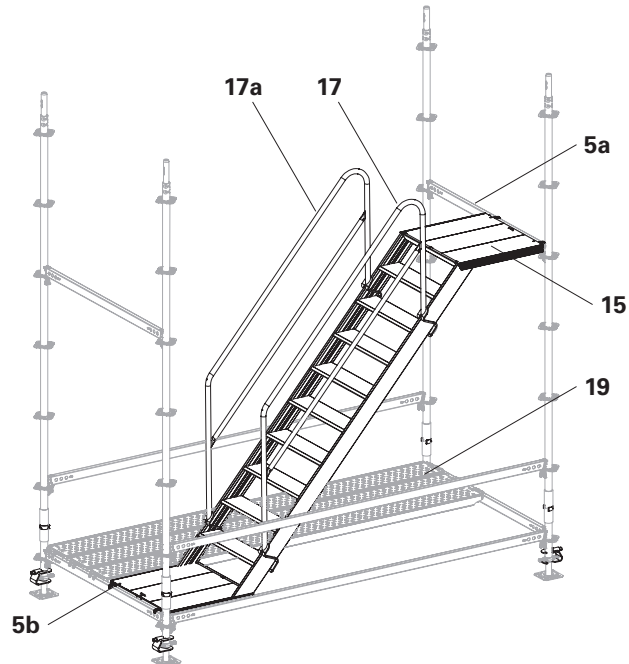
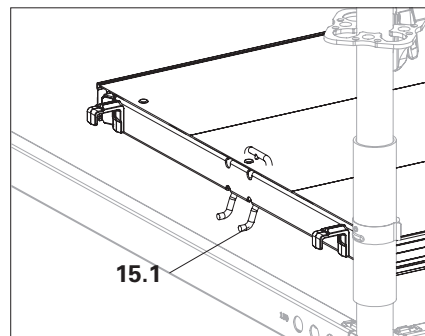
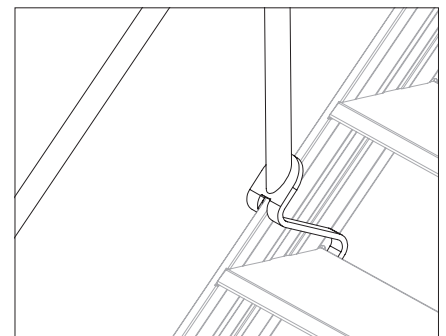

Fig. A3.08
Fig. A3.08a
Fig. A3.08b
1. Attach the Flex Stair UAS-2 (15) to the upper horizontal ledger (5a) first, then to the lower horizontal ledger (5b). (Fig. A3.08 + Fig. A3.08a)
3. Fit 2 x Stair Guardrails UAG (17 + 17a). (Fig. A3.08 + Fig. A3.08b)